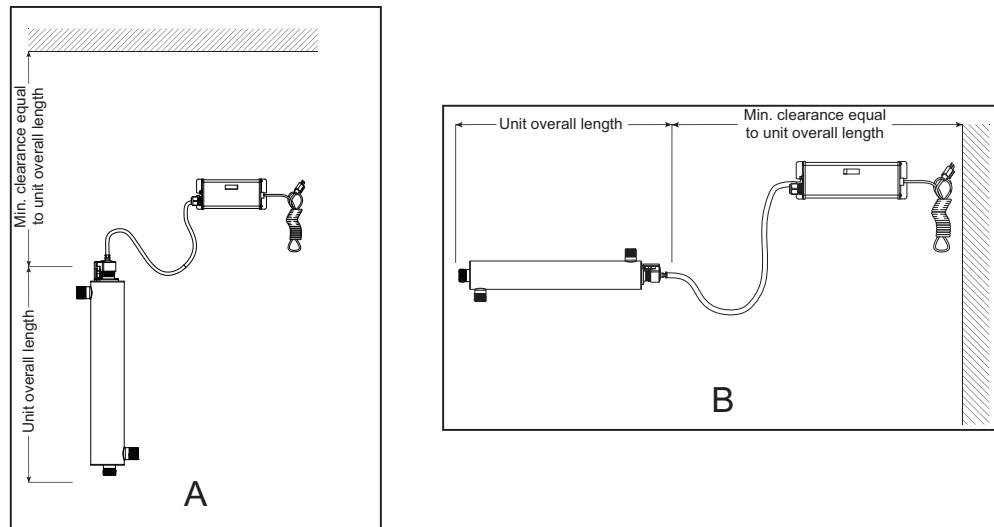

Figure 4 Installation - Vertical and Horizontal
2. Select a suitable location for the UV system and its related components. As it is recommended to install a GFCI, make sure that this is taken into consideration prior to any installation. The system can either be installed vertically (inlet port at the bottom) as shown in Figure 4 A, or horizontally as shown in Figure 4 B. However, the vertical installation is the most